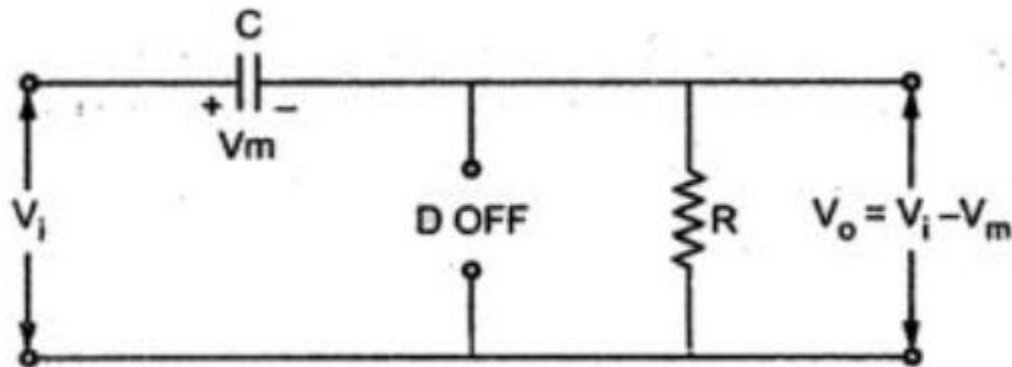

Fig.1.65 Operation of Negative clamper during positive half cycle
- Due to large RC time constant the capacitor holds its entire charge and capacitor voltage remains as $V_c = V_m$ as shown in the Fig. 1.65.